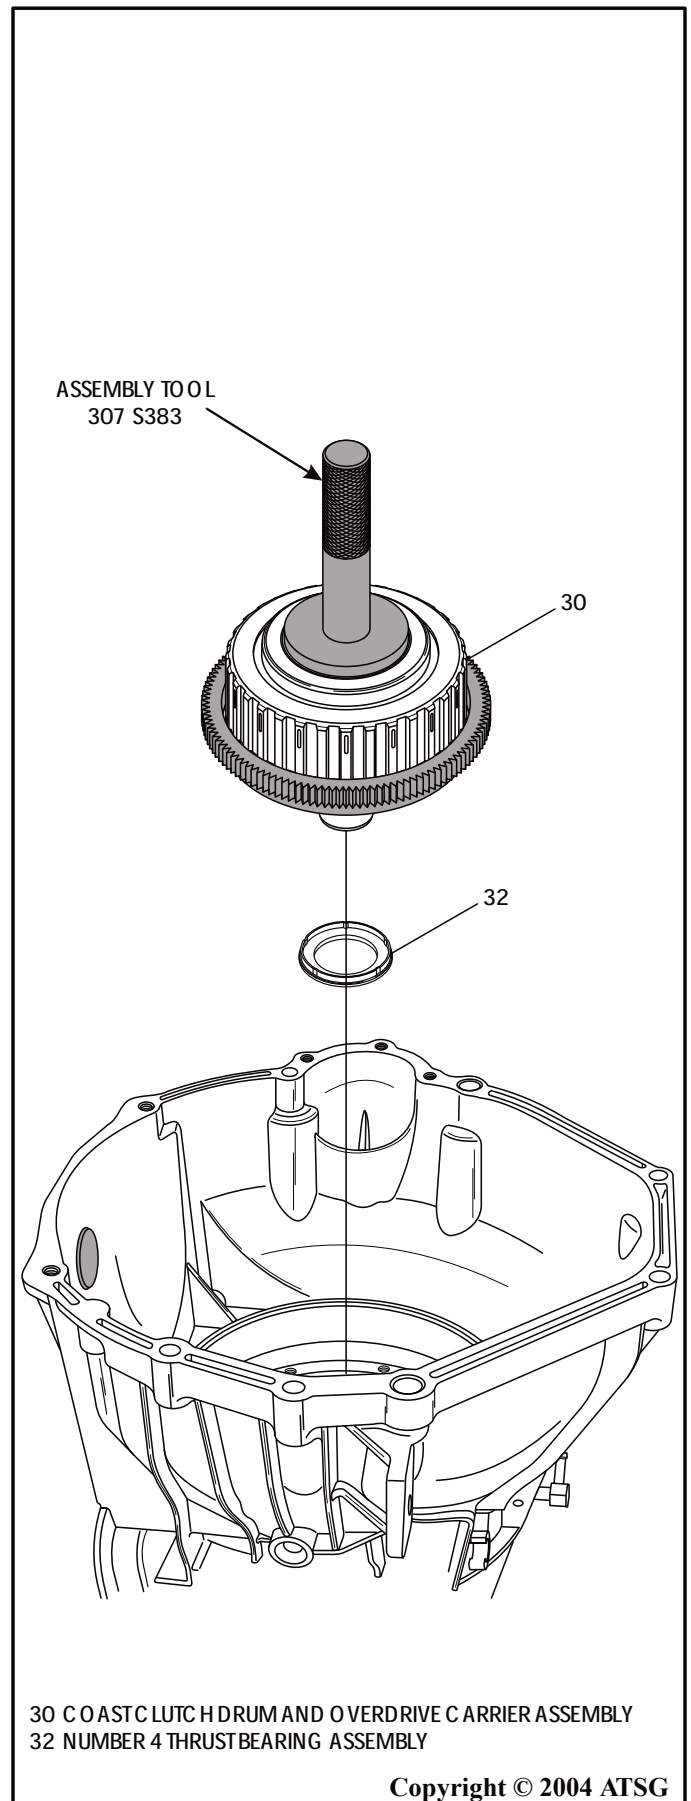

Figure 173
20. Install the pre-assembled coast clutch housing and overdrive carrier assembly, as shown in Figure 173, by rotating into position using the special assembly tool 307 S383.